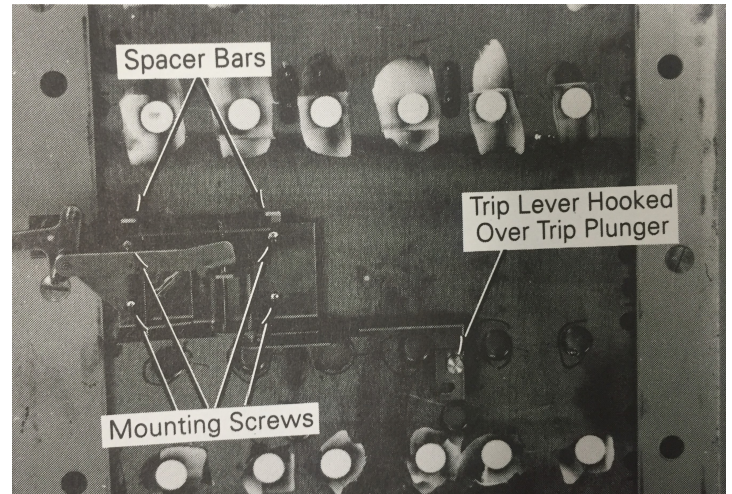

Figure 5 Interlock mechanism attached to the breaker
4. Install the interlock mechanism, with two aluminum spacer bars, as shown in Figure 5, hooking the trip lever over the slot in the trip plunger. Attach with four #10-32 Phillis-head screws tightened to 15 in-lb.